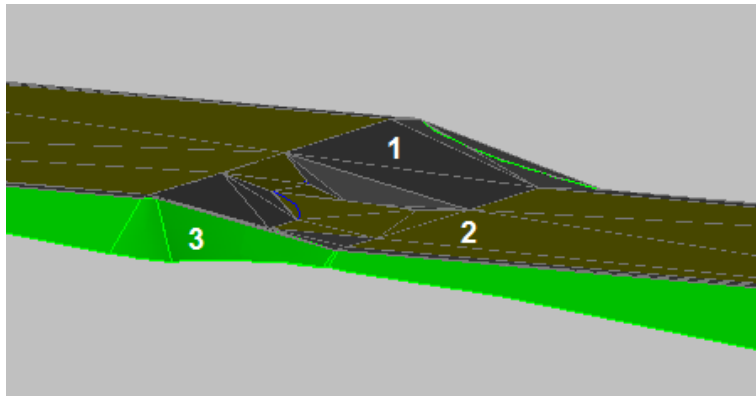

Figure 24: 3D grading
Figure 24 shows the same grading in a 3D shaded view. The gray area (1) is the infill grading that represents the shoulder, the gold area (2) is the pad infill grading, and the green (3) is the slope grading to the surface.